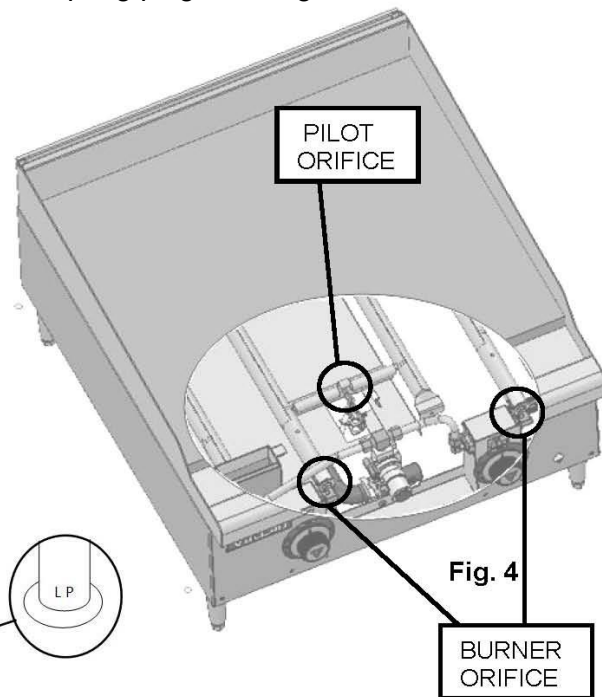

Fig. 4
Remove all natural gas burner orifices and install the provided propane burner orifices. See Fig. 4
1. Remove all pilot orifices and install the provided propane pilot orifices. See Fig. 4.
1. Remove all natural gas burner orifices and install the provided propane burner orifices. See Fig. 4
2. Remove all pilot orifices and install the provided propane pilot orifices. See Fig. 4.